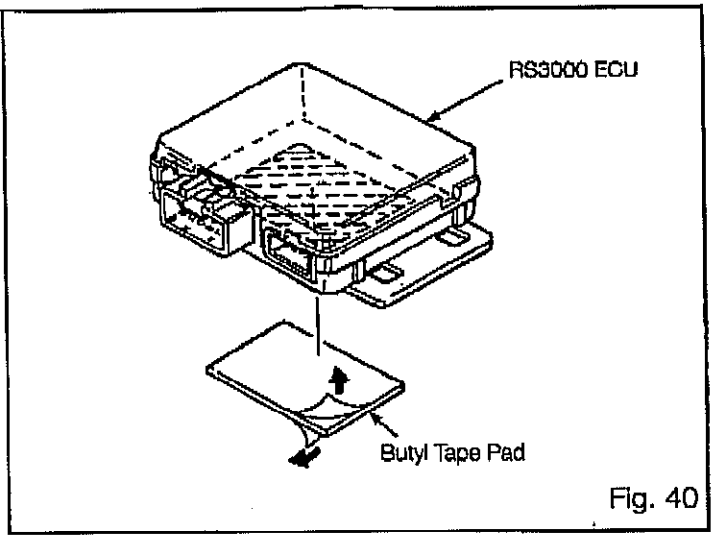

Fig. 40
(1) Peel the protective backing off one side of the butyl tape pad (provided), then affix the pad to the bottom of the ECU. Fig 40